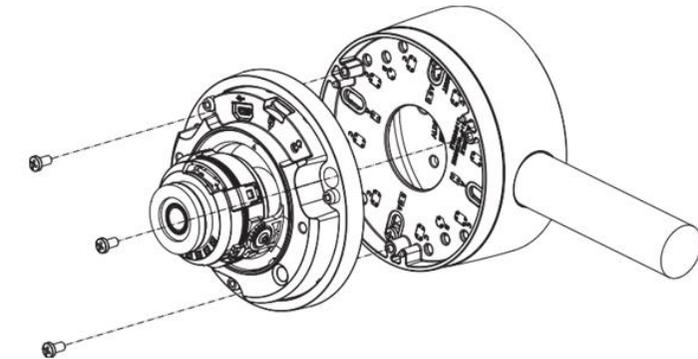

Figure 4
8. Assemble the camera on top of the mount plate and back box (Figure 4).